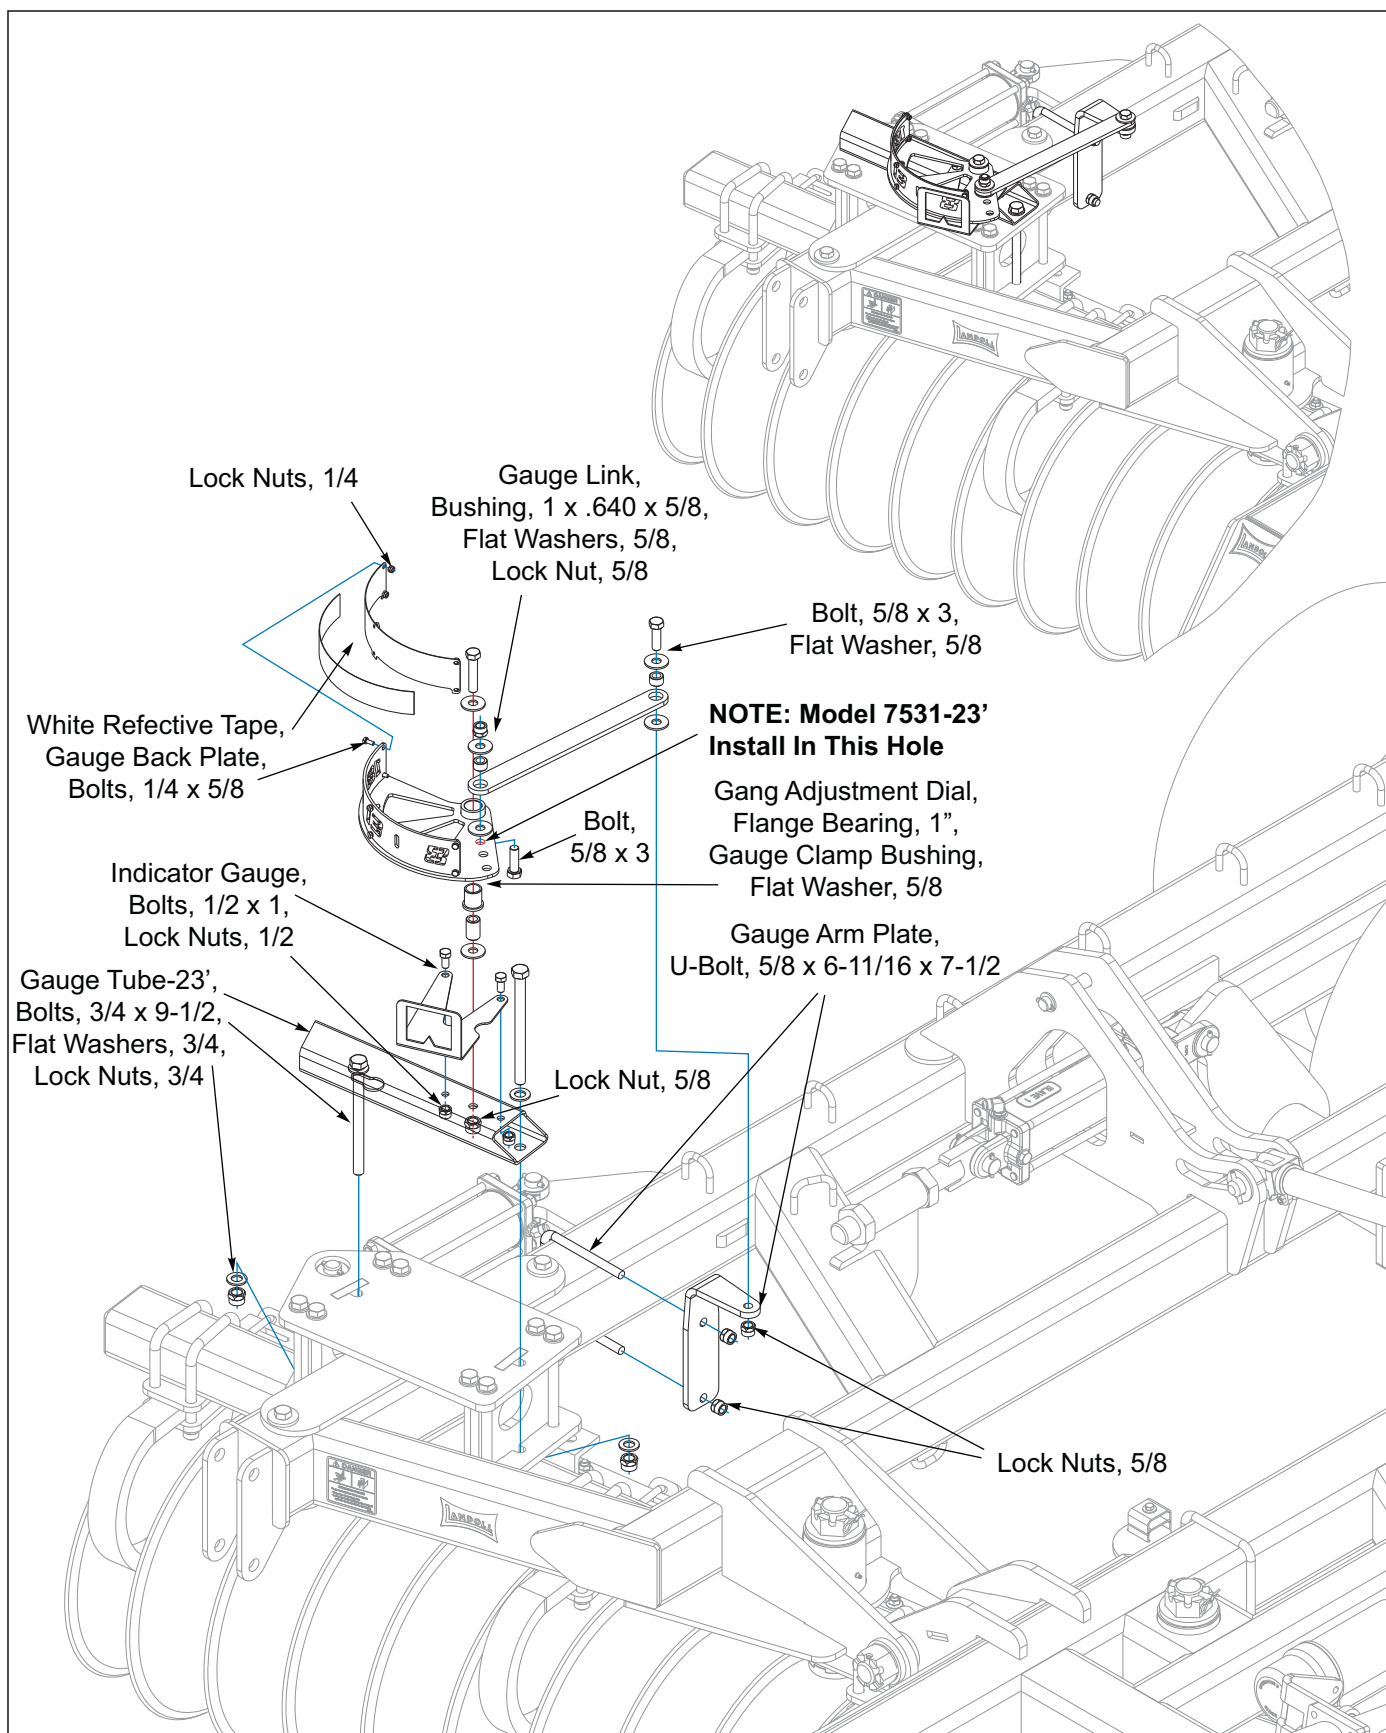
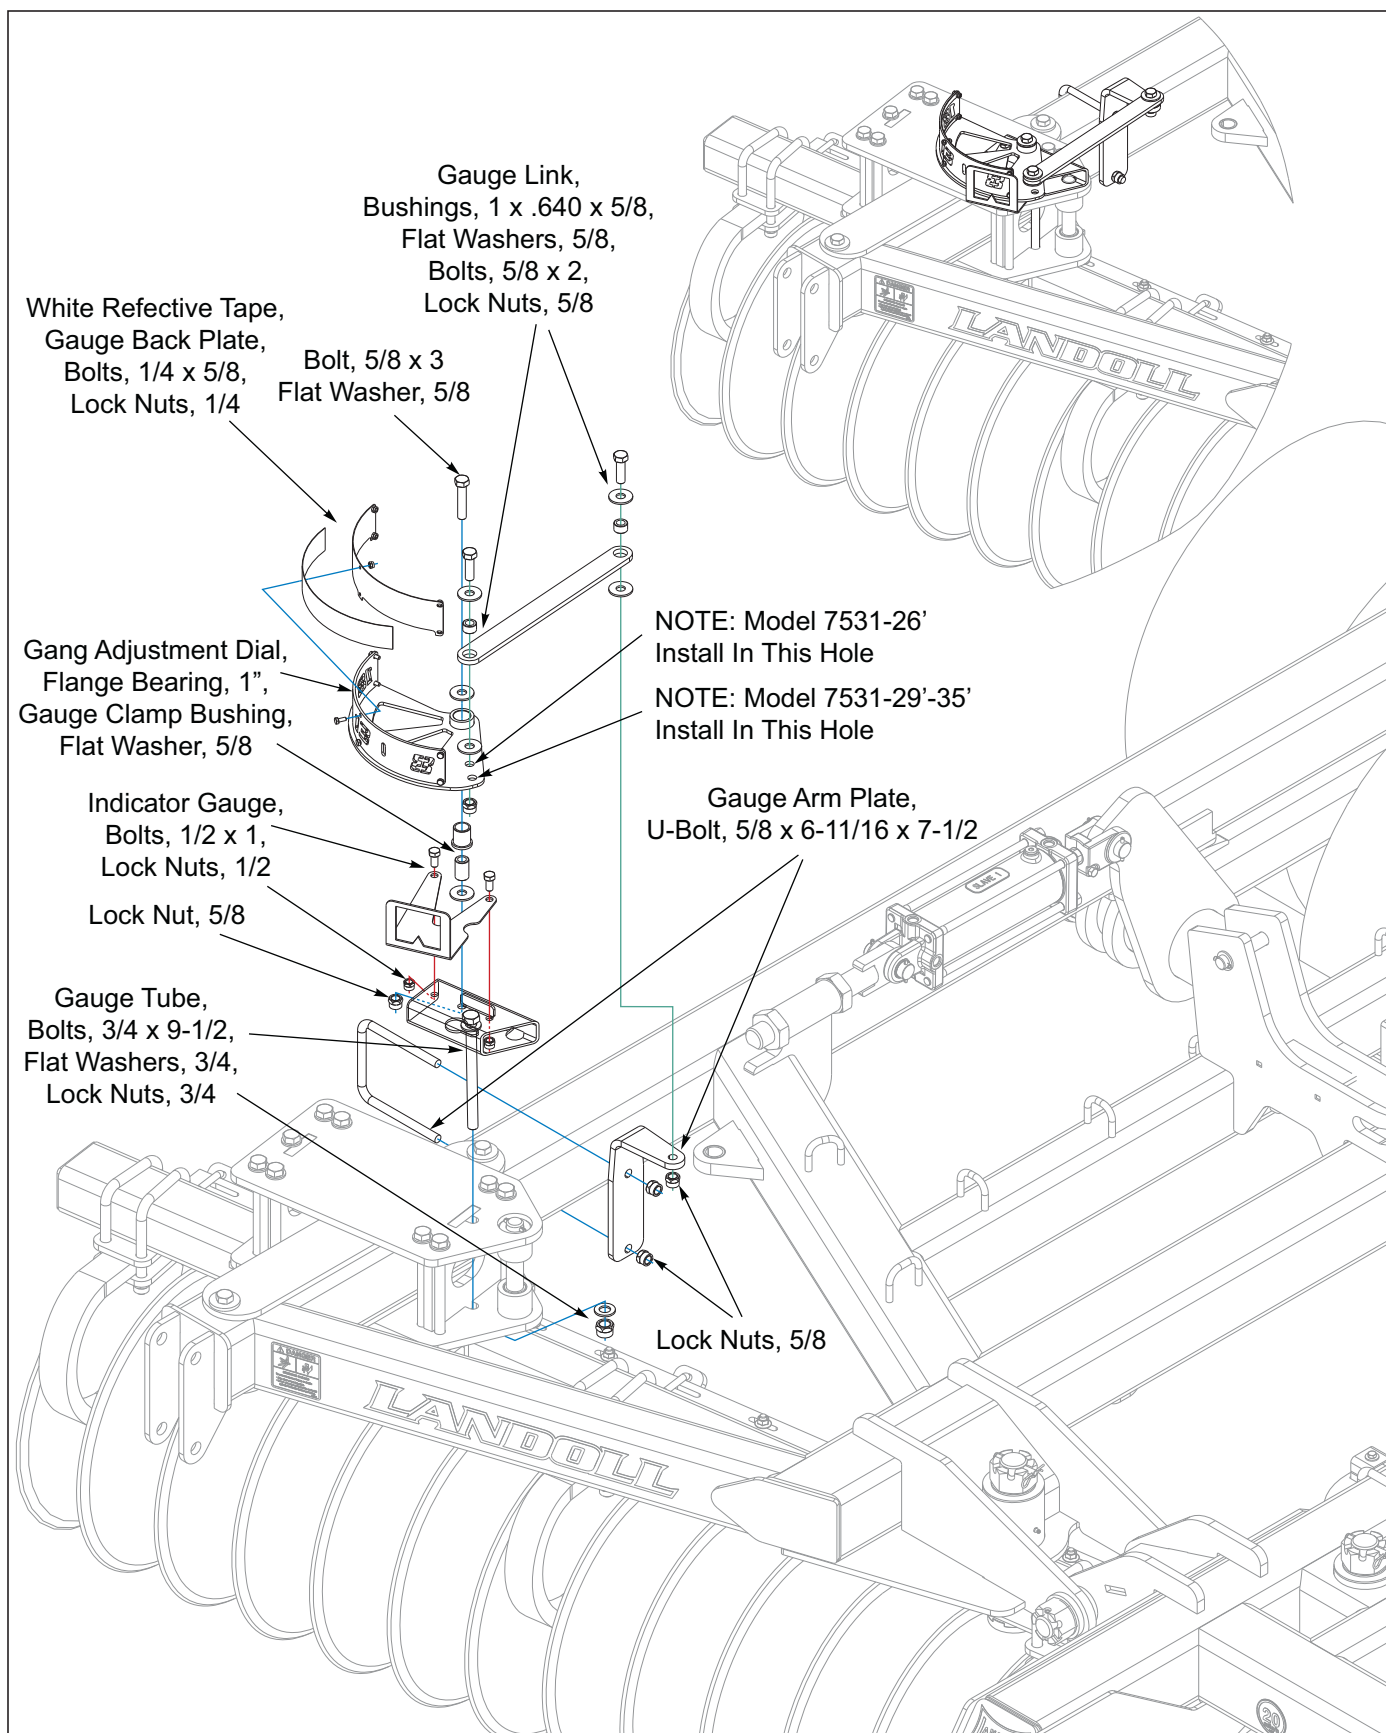

Figure 3-39: Disc Gang Adjust Gauge Installation 7531-23'
Figure 3-41: Disc Gang Adjust Gauge Installation 7531-26'-35'
6. Install the gang adjust gauge as shown *See Figures 3-39, 7531-23', See Figures 3-41, 7531-26'/29'/32'/35'* The gauge link will need to be mounted to the second hole in the gang adjust dial for the 7531-23'/26' VT and the first hole for the 7531-29'/32'/35' VT.
*To calibrate gauge the disc gangs will need to be adjusted to the 18° angle with hydraulics. Then manually rotate gang adjust dial to 18° setting in indicator gauge. Now the 5/8 x 6-11/16 x 7-1/2 u-bolts and lock nuts may be tightened *See Figures 3-39, 7531-23', See Figures 3-41, 7531-26'/29'/32'/35'*.*